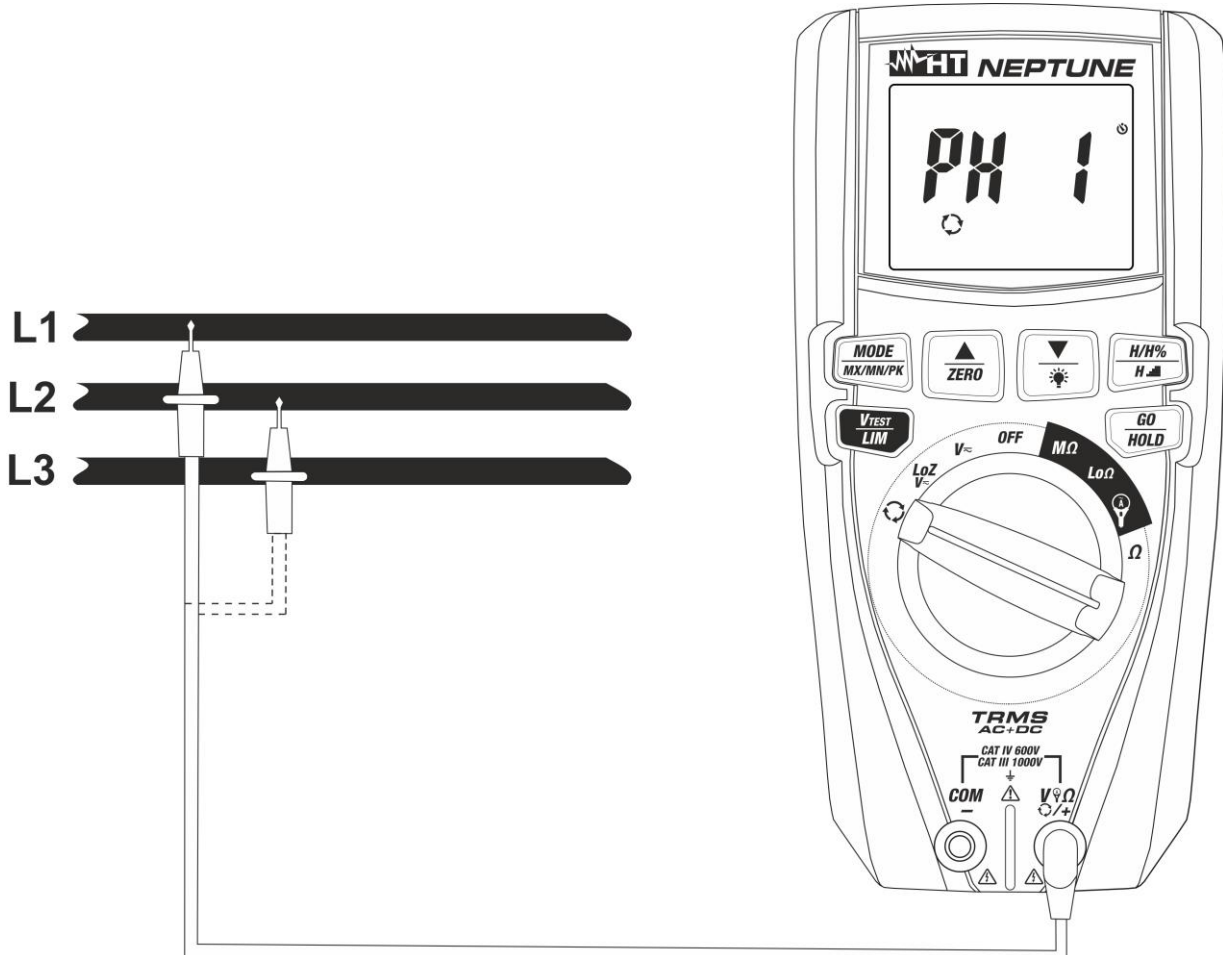
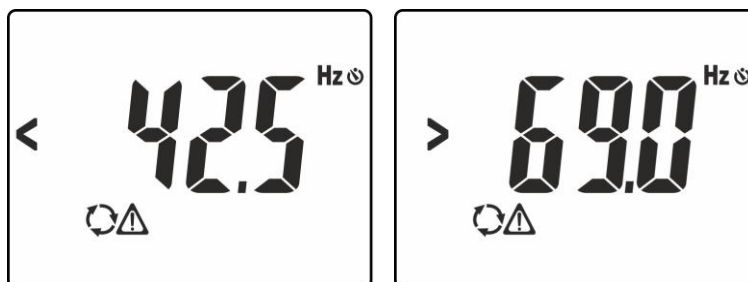
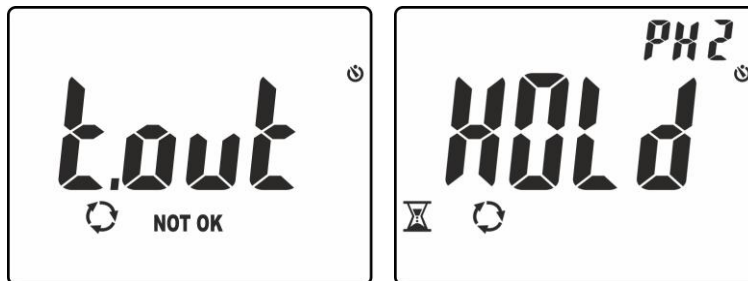

Fig. 10: Use of the instrument for phase sequence and phase concordance test
Fig. 11: Signal of voltage with wrong frequency
Fig. 13: Detecting phase L1 and waiting for phase L2
3. Position the red lead onto phase **L1** of the three-phase system to be tested (see Fig. 10). The following messages may appear on the display (see Fig. 11) to identify the presence of a voltage signal with frequency out of range **42.5Hz ÷ 69Hz**. In these conditions, the instrument does not perform the test.
6. Position the red lead onto phase **L2** of the three-phase system to be tested (see Fig. 10). In case passage between phase L1 and phase L2 takes more than **10s**, the instrument shows message “**t.out**” on the display (see Fig. 13 – left side). In conditions of correct voltage and frequency, the instrument shows message “**HOLD**”, symbols and “PH2” and the buzzer sounds continuously, waiting for a stable voltage value on phase L2 to be detected (see Fig. 13 – right side).